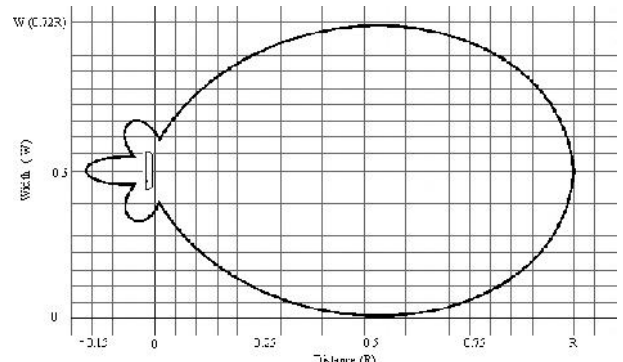

Figure 2. Effective RF Field for LR-3000 Reader
5. Results: Tags should read at about 3 reads per second, inside the “balloon” (Figure 2). Maximum range “R” may be 35-40 feet.